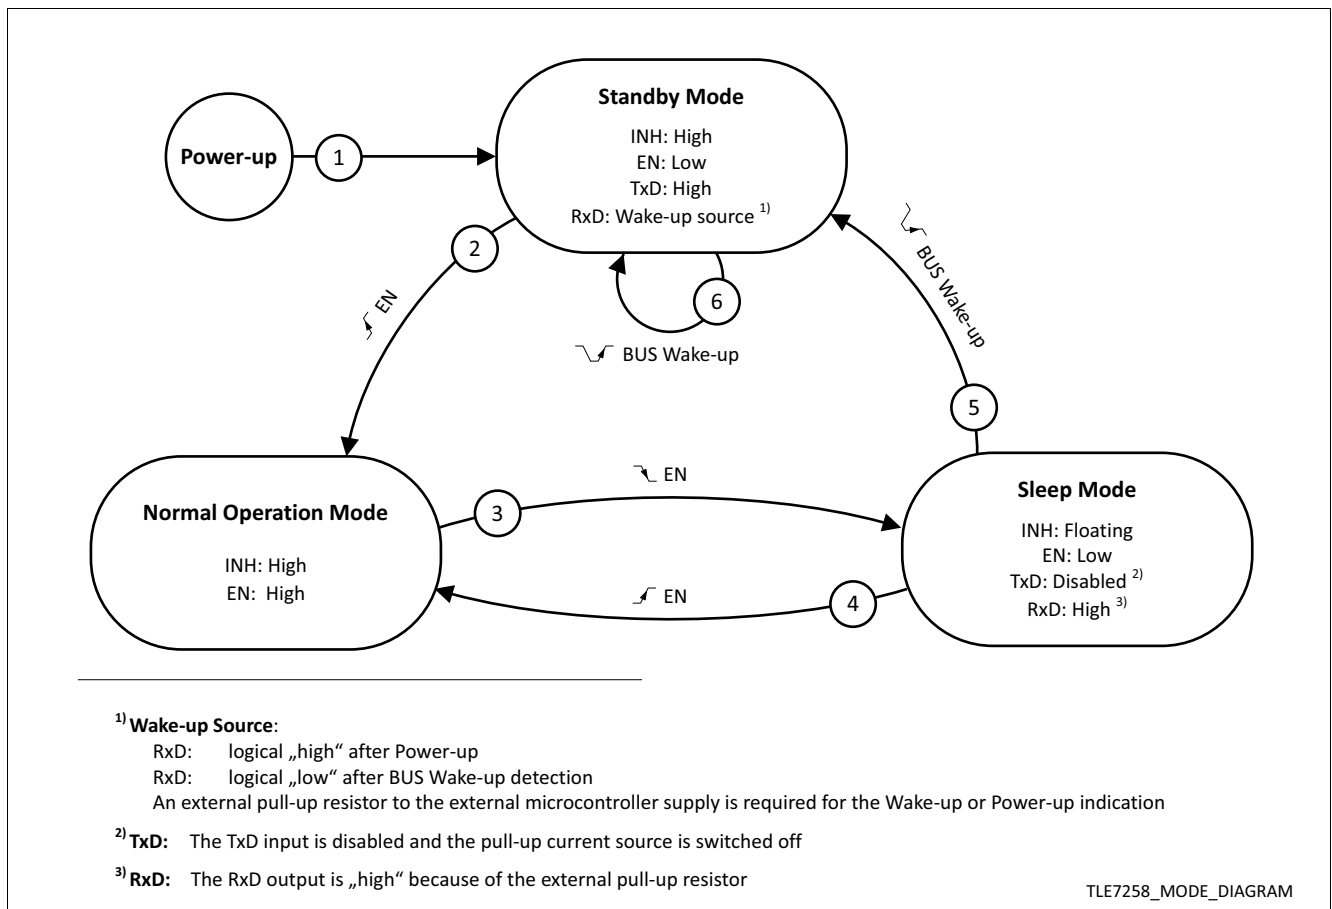
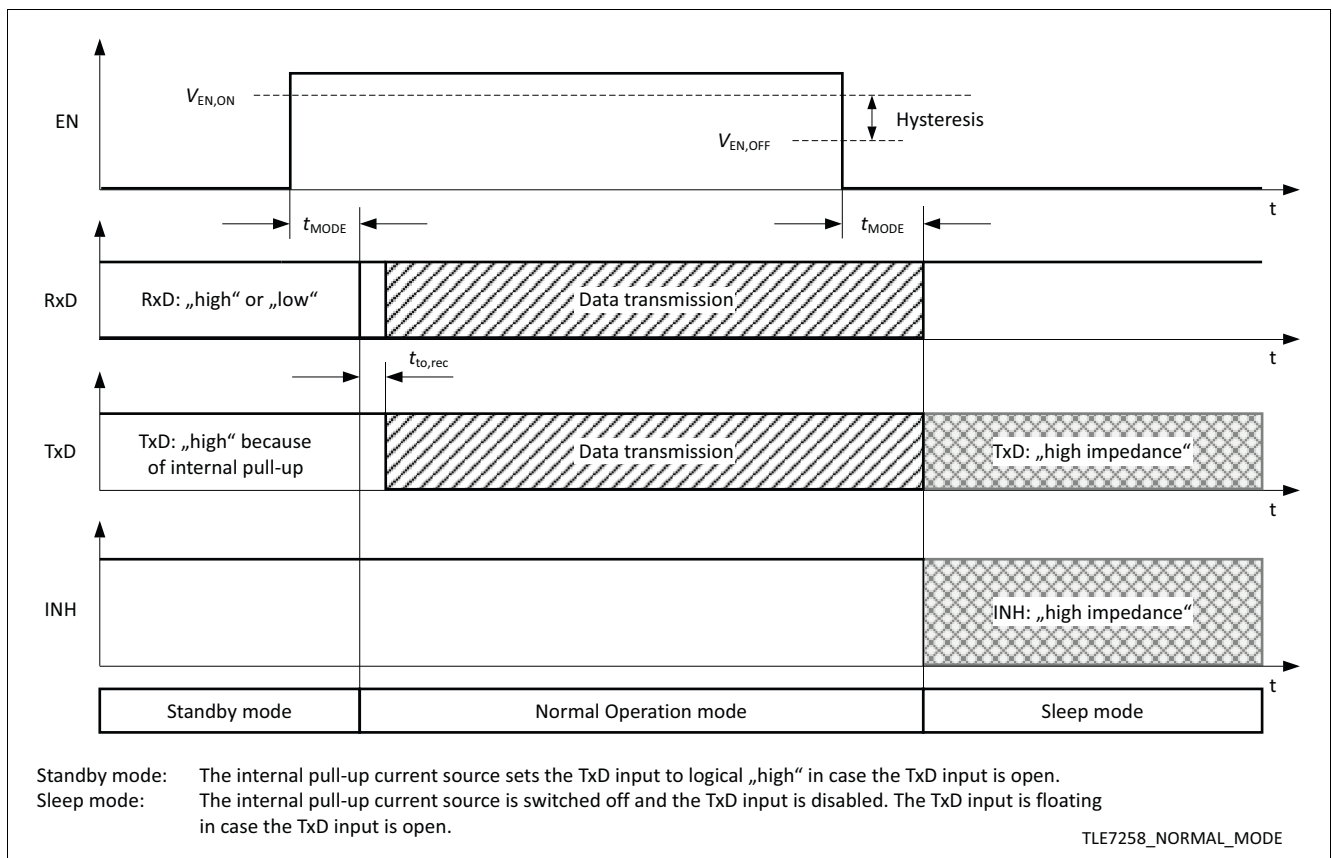
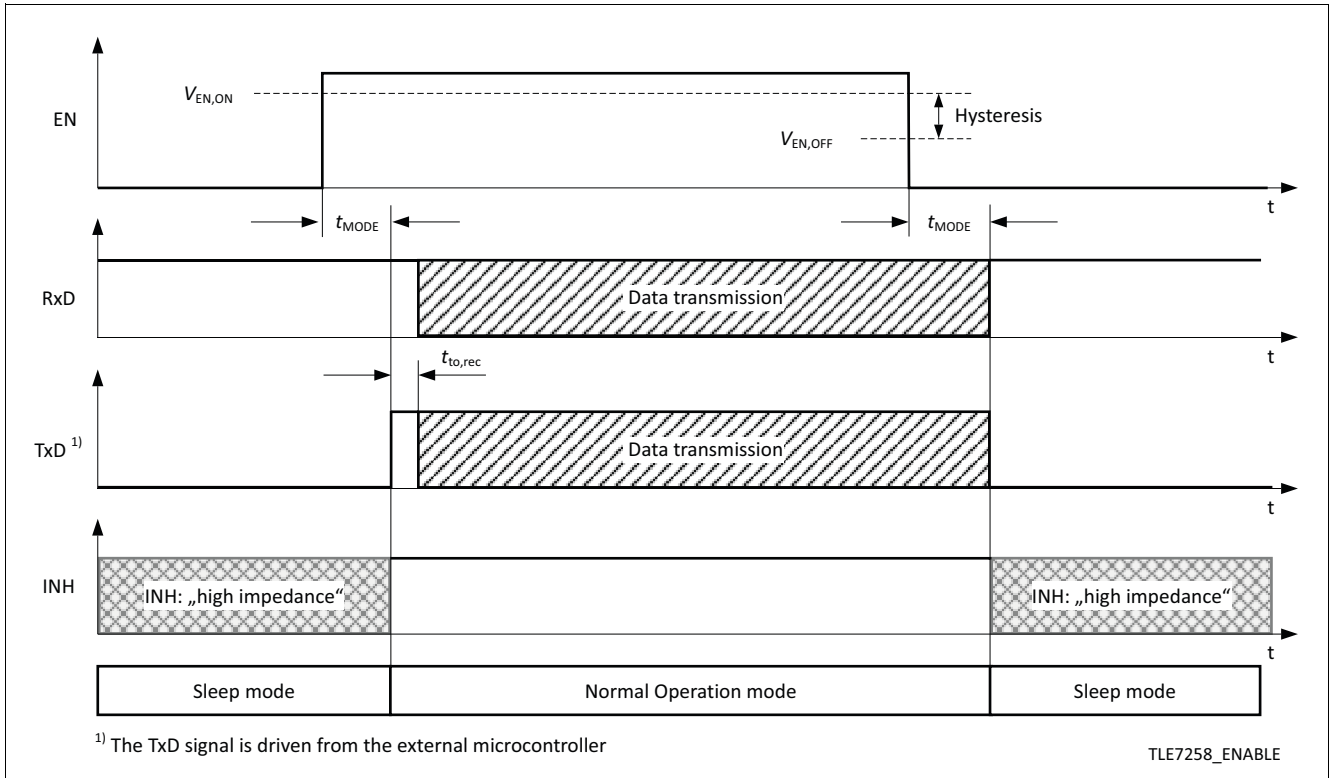

Figure 4 Operation mode state diagram
Figure 5 Entering Normal Operation mode from Standby mode
Figure 9 Entering Normal Operation mode from Sleep mode
The TLE7258 has 3 major operation modes (see Figure 4):
Normal Operation mode can be entered from either Sleep mode (see Figure 9) or from Standby mode (see Figure 5), by setting the EN input to logical "high". From Normal Operation mode the TLE7258 can only enter Sleep mode, it is not possible to enter Standby mode directly (see Figure 4).
After a mode change to Normal Operation the TLE7258 requires a logical “high” signal for the time $t_{to,rec}$ on the TxD input before releasing the data communication (see Figure 5). The transmitter remains deactivated as long as the signal on the TxD input remains logical “low”, preventing possible bus communication disturbance.
- The RxD output indicates either a wake-up event or a power-up event (see Figure 4 and Table 1).
- The EN input is active. A “high” signal on the EN input triggers a transition to Normal Operation mode (see Figure 5).
To switch the TLE7258 from Normal Operation mode to Sleep mode, the EN input has to be set to “low”. Conversely a logical “high” signal on the EN input sets the device directly back to Normal Operation mode (see Figure 4). The TLE7258 can only enter Sleep mode from Normal Operation mode.
The EN input is used for operation mode control of the TLE7258. By setting the EN input logical “high” for the time t_{MODE} while being Sleep or Standby mode, a transition to Normal Operation mode will be triggered (see **Figure 9**). The EN input has an integrated pull-down resistor to ensure the device remains in Sleep or Standby mode even if the EN pin is left open. The EN input has an integrated hysteresis.
A signal transition from logical “high” to “low” on the EN input changes the operation mode from Normal Operation mode to Sleep mode (see **Figure 5**).